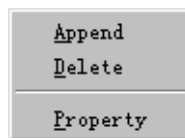
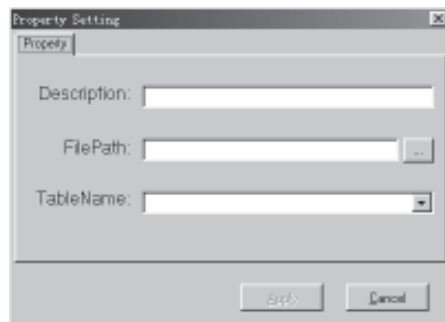
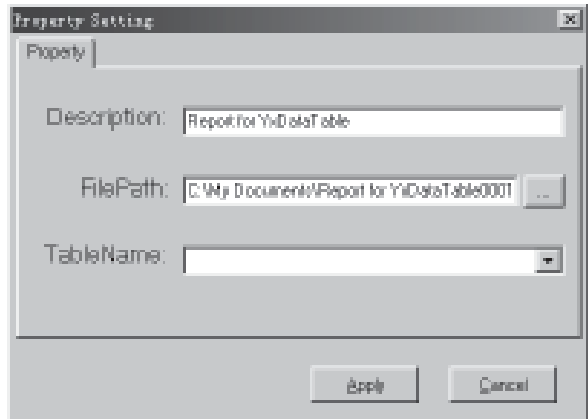

Fig. 8-22 Click the Right Key of the Mouse
Fig. 8-23 Select the ;°Append;±Function Option
Fig. 8-26 Properties Modifying Dialogue Block
2.1 Add the Designed Report to the Table List. Click the right key of the mouse in the listing table, and the dialogue block as in Fig. 8-22 will be shown. Select the function option ;°Append;±and the dialogue block as in Fig. 8-23 will be shown.
2.2 Delete the listing option from the listing table. First select the listing option to be deleted and then click the right key of the mouse. Then the dialogue block as in Fig. 8-22 will be shown. Select the `°Delete` function option.
2.3 Modify the properties of the listing option. First select the listing option to be modified and then click the right key of the mouse. Then the dialogue block as in Fig. 8-23 will be shown. Select the `°Property` function option, then the dialogue block as in Fig. 8-26 will be shown. In the dialogue block, modifying the `°Description` and `°FilePath`, and then click the button `°Apply`. Thus the modification is completed.